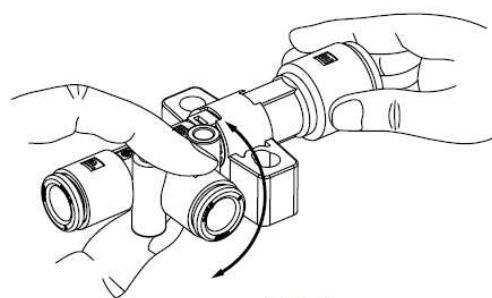

Fig. 4
- (2) Adjust the adapter to rotate the vacuum (V) port (Fig. 4).